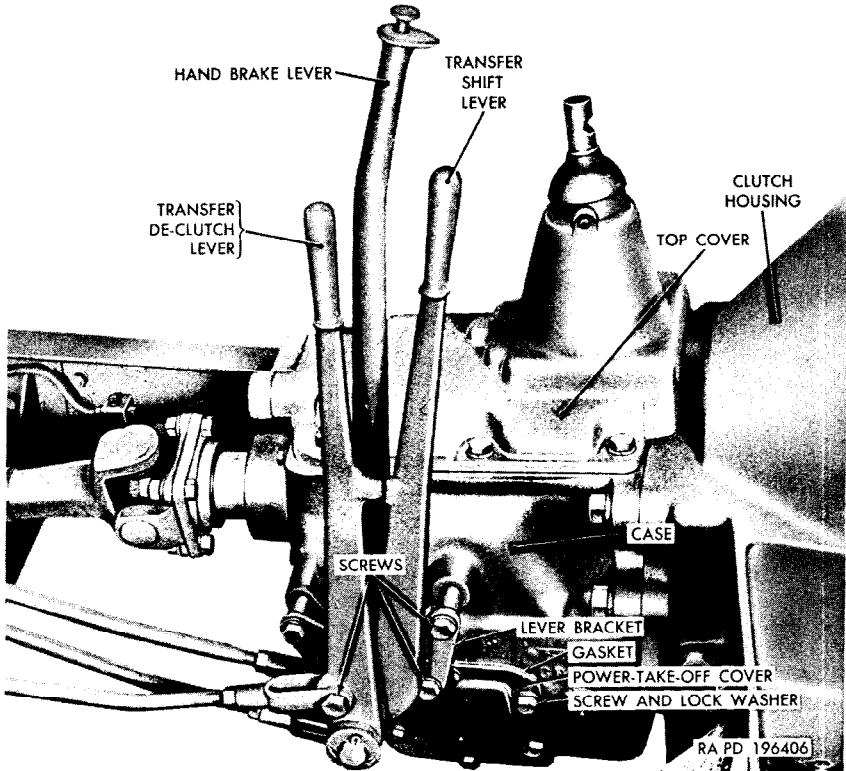

Figure 159. Transmission—right side.
- (2) Remove the six cap screws and lockwashers that secure the cover to the transmission case (fig. 159) and remove the cover and cover gasket. Discard the gasket.
- (3) Clean the gasket surfaces of the case and the cover thoroughly.
- (4) Apply liquid-type gasket cement to both sides of a new gasket and position the gasket on the cover. Position the cover and gasket on the case, alining the screw holes. Install the six $\frac{3}{8}$ -inch lockwashers and $\frac{3}{8}$ -16NC x $\frac{3}{4}$ cap screws. Tighten the screws evenly.
(fig. 159)
- (7) Place the assembled handbrake lever and transfer shift levers and bracket in position at the side of the transmission and install the three $\frac{3}{8}$ -inch lockwashers and $\frac{3}{8}$ -16NC x $2\frac{3}{4}$ screws (fig. 159). Tighten the screws evenly.
- (8) Install the transmission access cover (par. 122f).